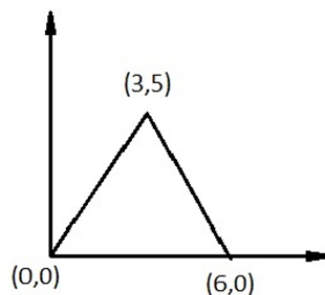

Figure 5
- (b) Apply the element stiffness matrix for the triangular element shown in Figure 5 under plane strain condition. Assume the following values. $E=200 \text{ GPa}$, $\mu=0.25$, $t=1 \text{ mm}$. [7M]